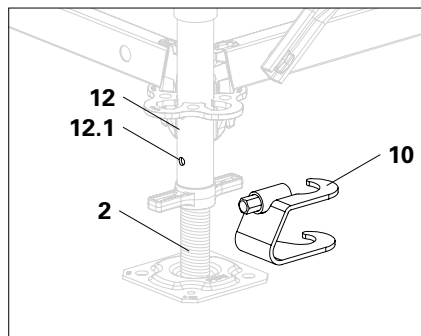

Fig. A1.13a
1. Place the Handle Locking UJS (**10**) from the side onto the Adj. Base Plate (**2**) and the base standard. Quick jack nut (**2.1**) must be inside the Handle Locking UJS. (Fig. A1.13a)